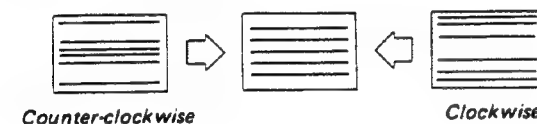

Fig. 28-3
4. Adjust the gain of V lineality with V.LG (RV8) on the DA board as shown in Fig. 28-3.